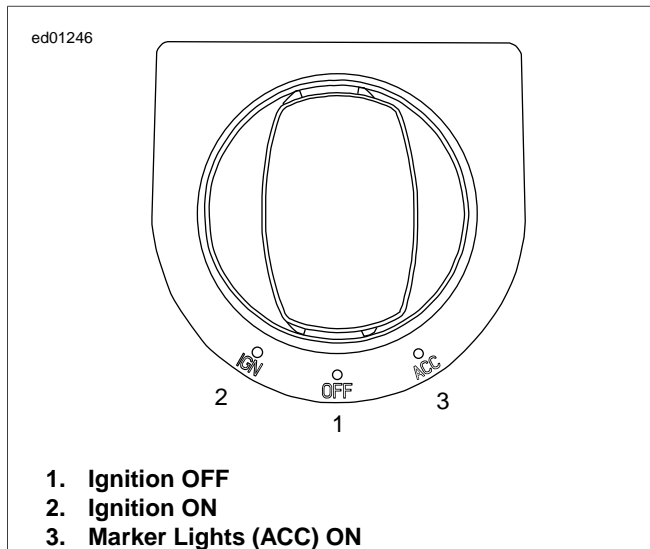

Figure E-7. Ignition Switch
- See Figure E-7. "Key ON" means that the Ignition Switch is turned to IGNITION and the Engine Stop Switch is set to RUN (although the engine is not running).